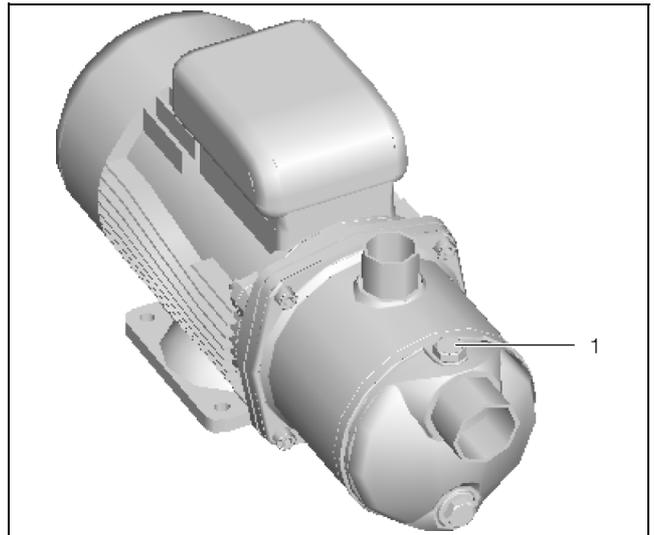

Fig. 33: Bleeding the cooling medium pump
- Bleed the cooling medium pump (with the system at a standstill) by loosening the bleed screw a little (fig. 33, item 1).